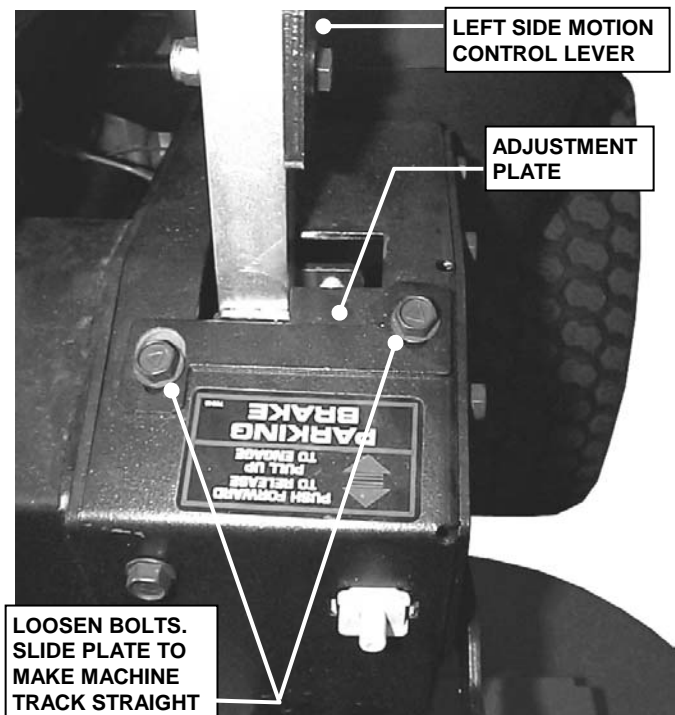

FIGURE 2
- D. If machine tracks to the left, loosen bolts that secure the right adjustment plate. Move plate rearward to slow the right wheel down. Retighten bolts. See Figure 2.